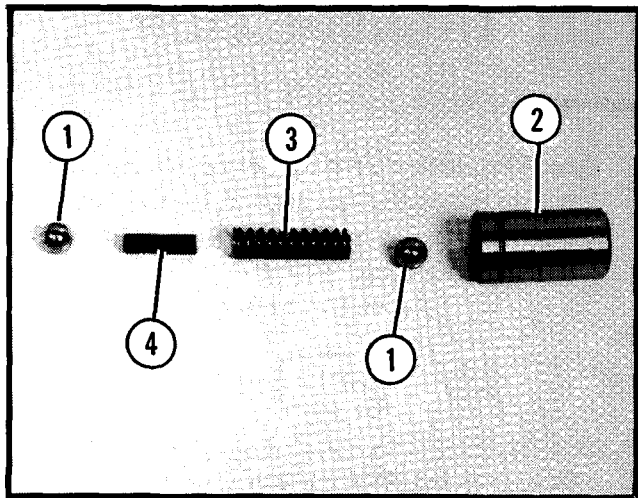

Figure 3.
4. Remove the shifter levers, interlock sleeve, balls, spring and spacer. See Figure 3.